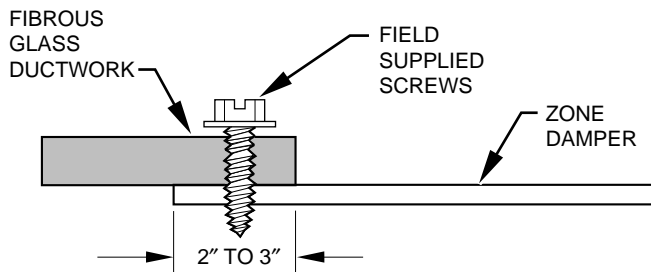

**Fig. 6—Insulated Round Flexible Duct Work**
4. Insulate damper using 1-1/2 in. to 2-in. insulation. (Check your local codes.) (See Fig. 6.)